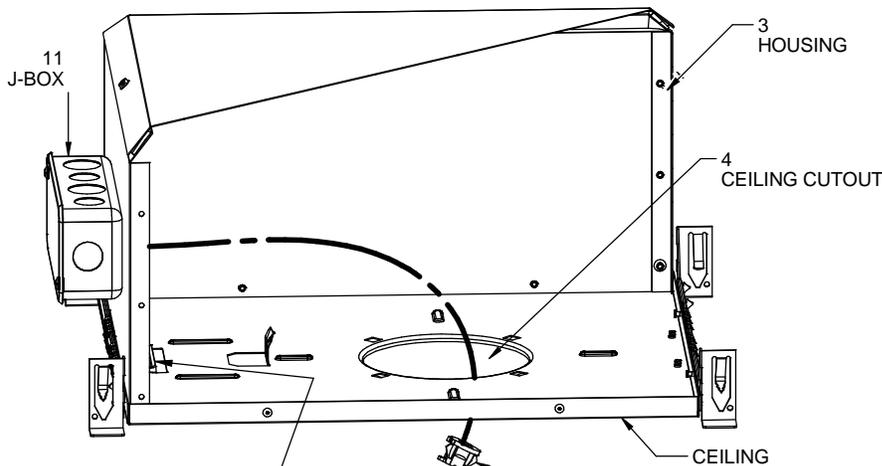

FIG 3.1
3. Install the Light engine assembly (1) to housing (3) by squeezing all the springs (9) inserting it through ceiling cutout (4) and gently pushing it against the ceiling. **FIG 3.1**